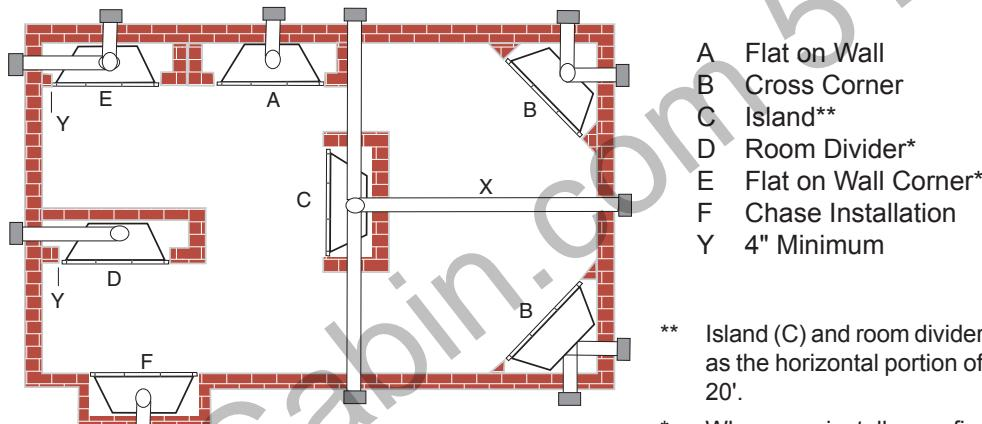

Figure 3 -
- This fireplace may be installed along a wall, across a corner, or use an exterior chase. Refer to *Figure 3* for suggested locations.